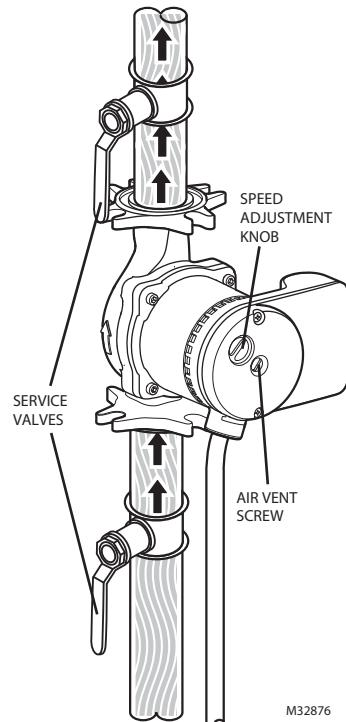

Fig. 9. Bleed the circulator by loosening the air vent screw.
- Turn the speed adjustment knob clockwise to increase the speed (see Fig. 9).
Rotor/shaft stuck	<ul style="list-style-type: none"> <li>Isolate the pump from the power supply.</li> <li>Remove the vent screw (see Fig. 9).</li> <li>Turn the shaft clockwise using a small screwdriver.</li> <li>Screw in the vent screw.</li> <li>Switch on the pump.</li> </ul>